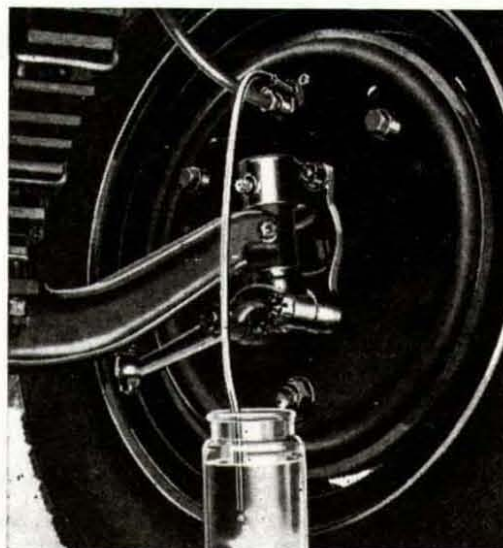

Fig. 23
- (2) If the master cylinder used in the system is of a type fitted with a bleeder screw, commence at this unit. Slacken the bleeder screw, depress the brake pedal slowly by hand and, whilst FLUID issues and before the pedal reaches the end of its stroke, tighten the bleeder screw securely.
- (3) Attach a rubber tube to a bleeder screw on one of the wheel cylinders and allow the free end to be submerged in a little fluid in a clean glass jar (as on Fig. 23) Open the bleeder screw one complete turn.
- (4) Depress the brake pedal slowly, allowing it to return unassisted, repeating this pumping action with a slight pause between each operation. Watch the flow of fluid in the jar and when all air bubbles cease to appear, hold the pedal down firmly and securely tighten the bleeder screw.
- (5) Repeat at all wheel cylinders.
- (6) Where a tandem master cylinder is fitted, one front and one rear wheel cylinder should be bled simultaneously to obtain the best purge.